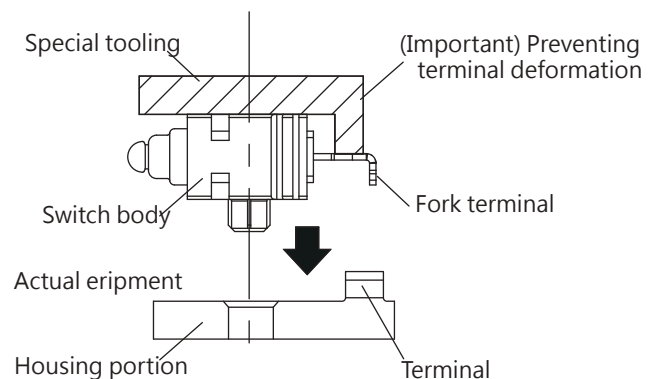

Figure-2
6. < Important > To prevent deterioration of contact reliability, fork terminals should not be deformed in any situation. In order to prevent the deformation of the fork terminals, please use a special tooling to keep the switch vertical to the actual equipment. When inserting the fork terminal to the actual equipment, please make sure the fork terminal is well-supported, As shown in (Figure-2)